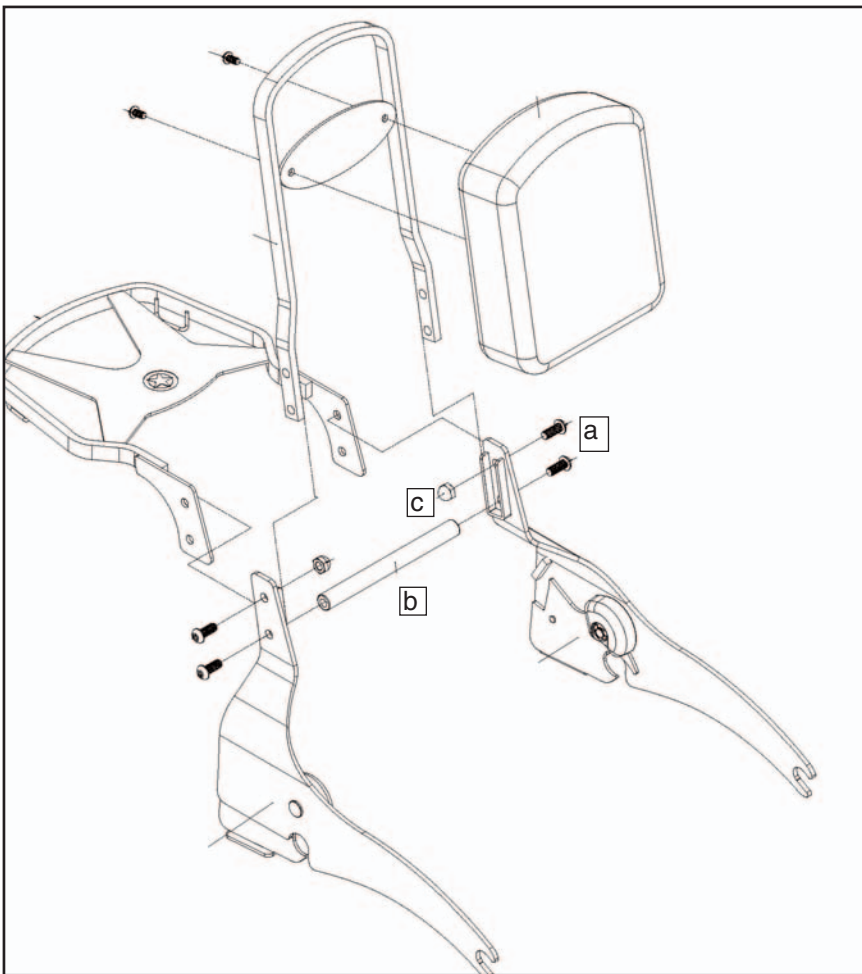

Figure 3
1. Assemble side plates (1) and (2) to the Paladin backrest alone or with the Paladin luggage rack. **(5mm Hex Wrench) Figure 3**
2. Use the button head screws (a) and the support stay (b) provided with the backrest to complete assembly of the side plates. **(5mm Hex Wrench and Thread Lock) Figure 3**